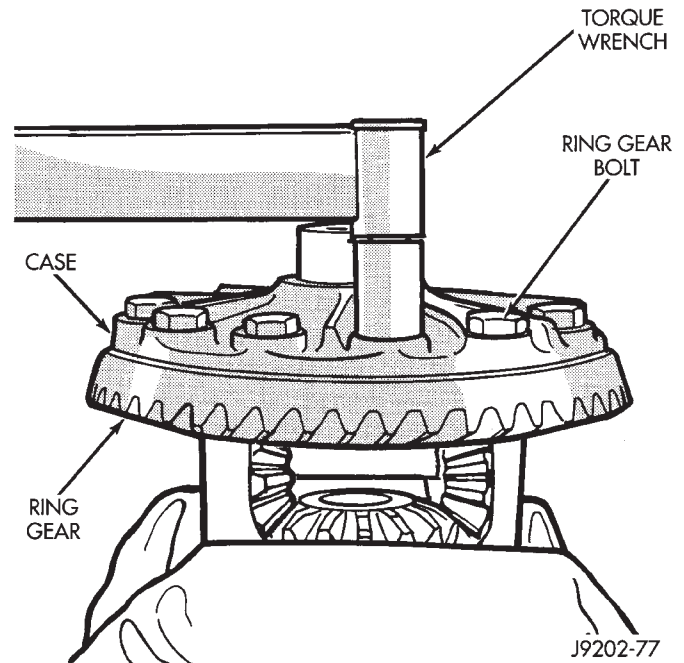

Fig. 43 Ring Gear Bolt Installation
- (1) Invert the differential case and start two ring gear bolts. This will provide case-to-ring gear bolt hole alignment.
- (2) Invert the differential case in the vise.
- (3) Install new ring gear bolts and alternately tighten to 129–142 N·m (95–105 ft. lbs.) torque (Fig. 43).
- (4) Install differential in axle housing and verify gear mesh and contact pattern.